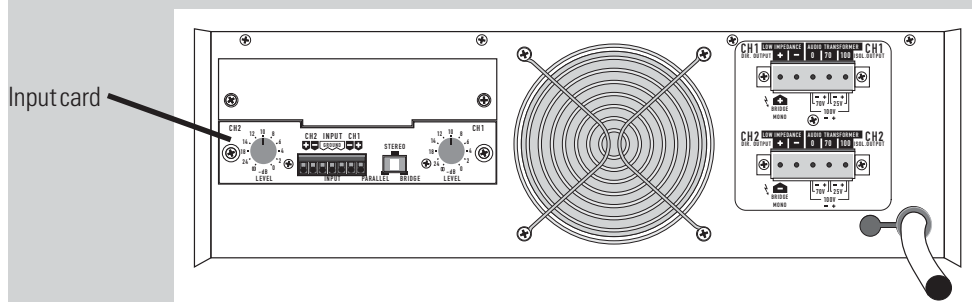

Figure 5. Location of the input card (legacy CX model shown). MXa and EX amplifiers are similar.
2. Position the amplifier so the rear of the chassis is facing you. The input panel is located on the left side of the rear panel. See Figure 5.
3. Begin the installation by locating and removing the screws securing both the upper blank and lower input panels to the rear side of the chassis (two screws on each mini panel). See Figure 5. The upper blank panel will simply drop off when its screws are removed.